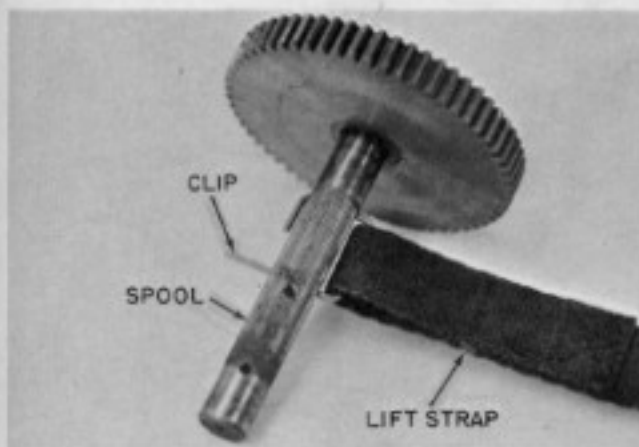

Fig. 1-22
5. Unroll the lift strap from the spool as illustrated in Fig. 1-22.